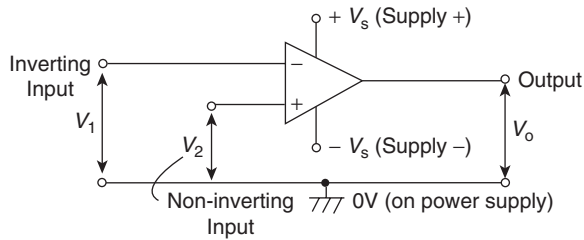

Figure 19.1
- (iii) a very low output impedance, around 100Ω , such that its output voltage is transferred efficiently to any load greater than a few kilohms. The **circuit diagram symbol** for an op amp is shown in Fig. 19.1 It has one output, V_o , and two inputs; the **inverting input**, V_1 is marked $-$, and the **non-inverting input**, V_2 , is marked $+$